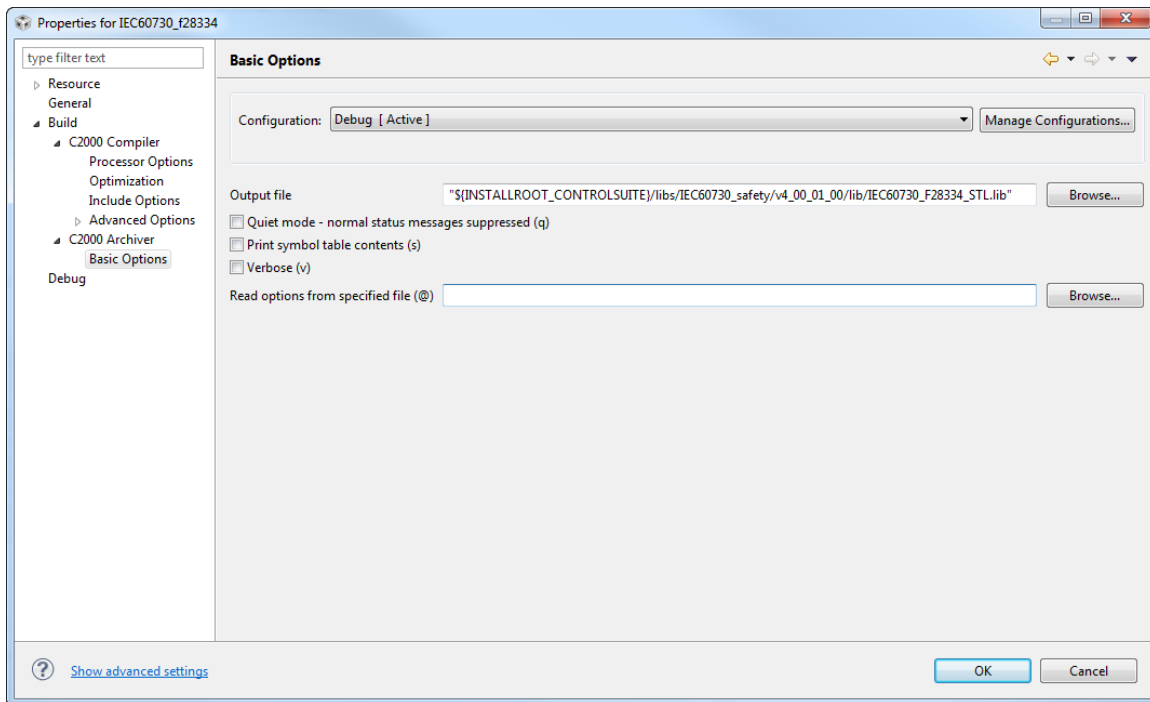

Figure G.3: Setting Library Output name and Directory
8. Click on **Projects** menu > click on **Properties** > expand to **Build** > **C2000 Archiver** > **Basic Options**. In the **Basic Options** in **Output file** text box type in the name of the library and the directory to place the library. For instance if building for f28334, enter **"\${INSTALLROOT_CONTROLSUITE}/libs/IEC60730_safety/v4_00_01_00/lib/IEC60730_F28334_STL.lib"** > click **OK**. This will set the name of the library and the directory it will be placed after it is built. See figure G.3.